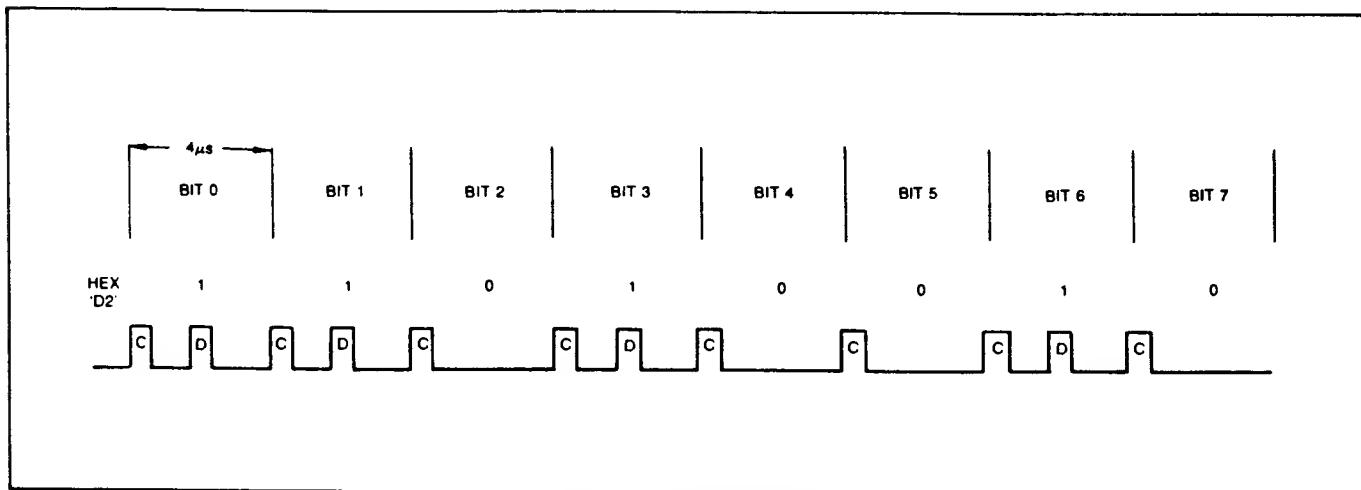

FIGURE 1. FM RECORDING.
The 1771 has been designed to be compatible with the IBM 3740 standard. This single-density Frequency Modulated (FM) recording technique, records a clock bit between a data bit serially on each track. Figure 1 illustrates how a HEX "D2" is recorded. Note that when the data bit to be written is zero, no pulse or flux transition is recorded. For the 8" drive, there are 77 tracks, with 26 sectors on each track. Each sector contains 128 bytes of data. Although there is no "standard" format for the mini-floppy, most manufacturers utilize either 35 or 40 tracks per side, with 16 sectors of 128 bytes each per track. Both the 8" and 5½" formats must be soft-sectorized, i.e., there are no physical holes to denote sector locations. The hard-sectorized disk has been losing popularity, mainly due to the fact that the sector lengths cannot be increased.